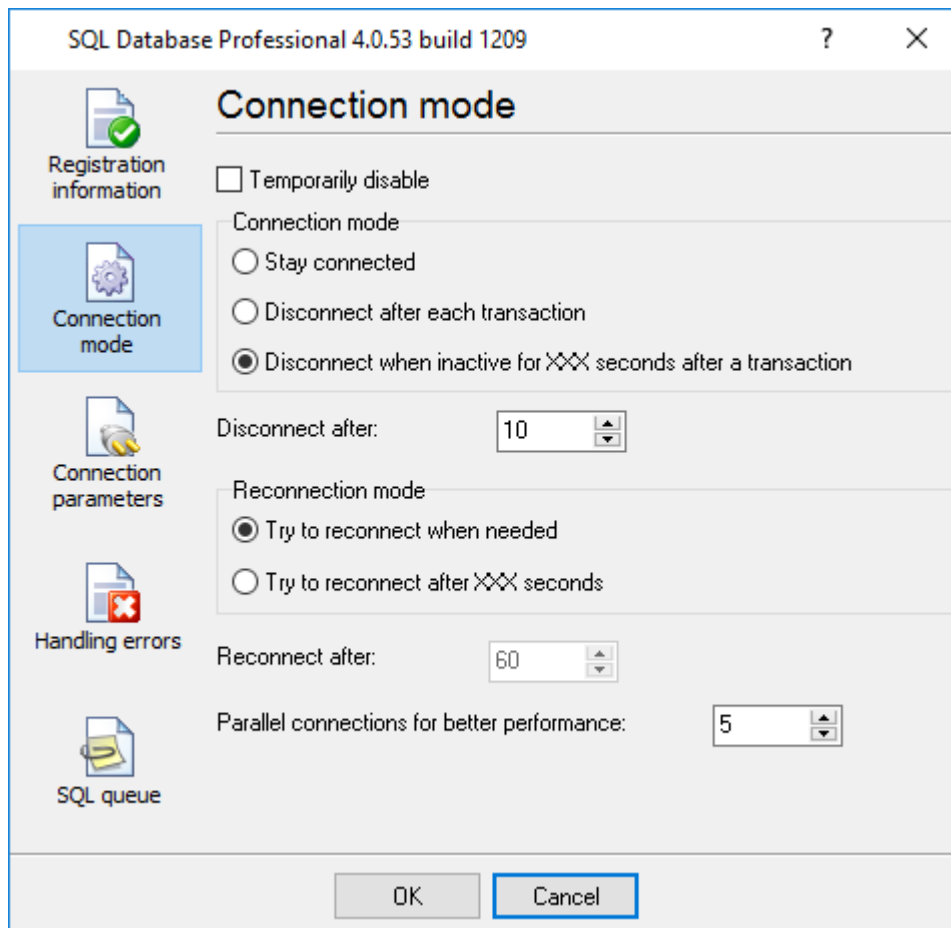

Figure 3. Connection mode
6. Switch to the "Connection mode" tab and make sure that the "Temporarily disable" checkbox is unchecked (Figure 3).